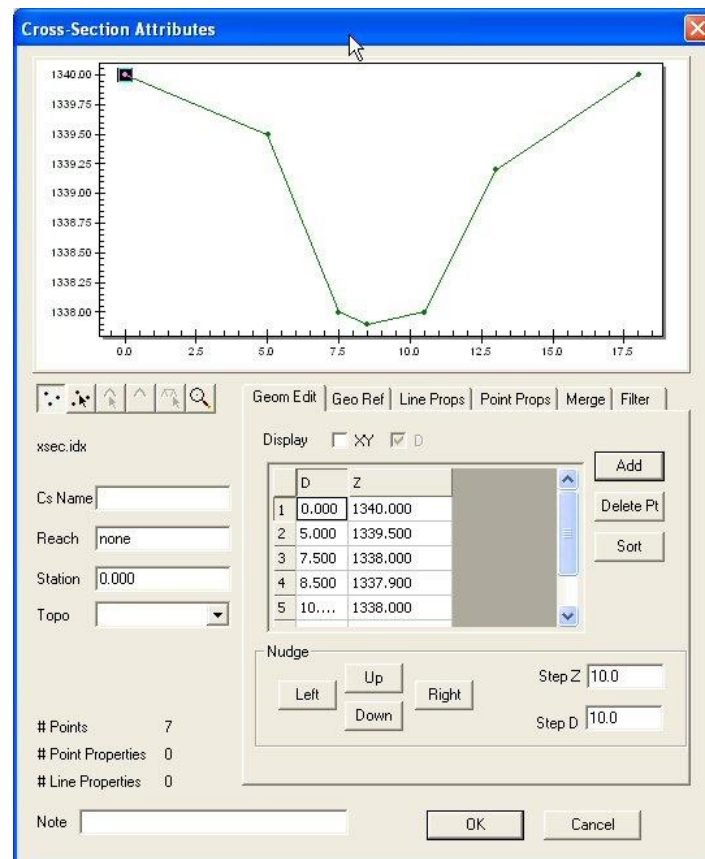

Figure 7-1: Adding cross section geometry data to the database.
7. Copy and paste the cross section data for Channel Section 1 from *channel.txt* (opened in Notepad) into the Cross-Section Attributes Geom Edit tab as shown in Figure 7-1. Make sure to paste the data into the first row.